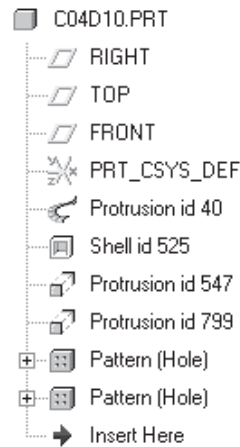

Figure 7-44 Model Tree for Tutorial 1
1. Choose the **Save the active object** button from the **File** toolbar and save the model. The order of feature creation can be seen from the **Model Tree** shown in Figure 7-44. As discussed in earlier chapters, the model tree is used to get an idea of the order of feature creation. In the **Model Tree**, the id numbers displayed in front of the features may be different when you create the features.